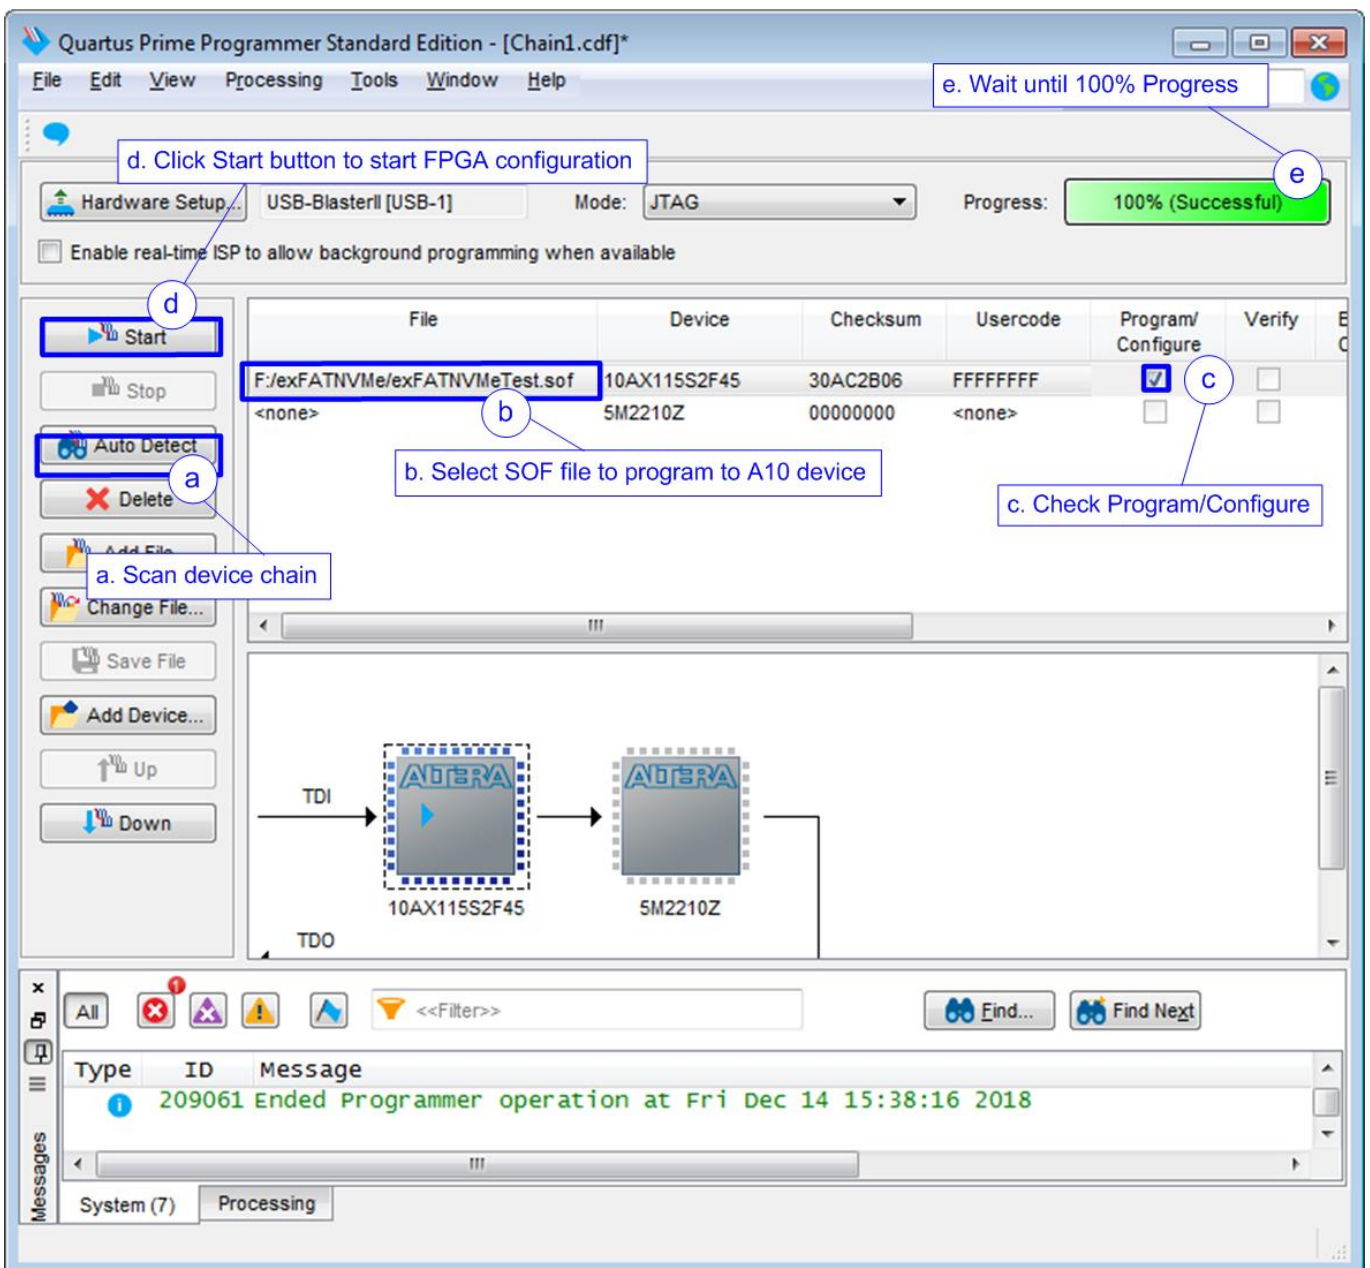

Figure 2-4 Programmed by Quartus Programmer
- 5) Use Quartus Programmer to program “exFATNVMeTest.sof” file, as shown in Figure 2-4